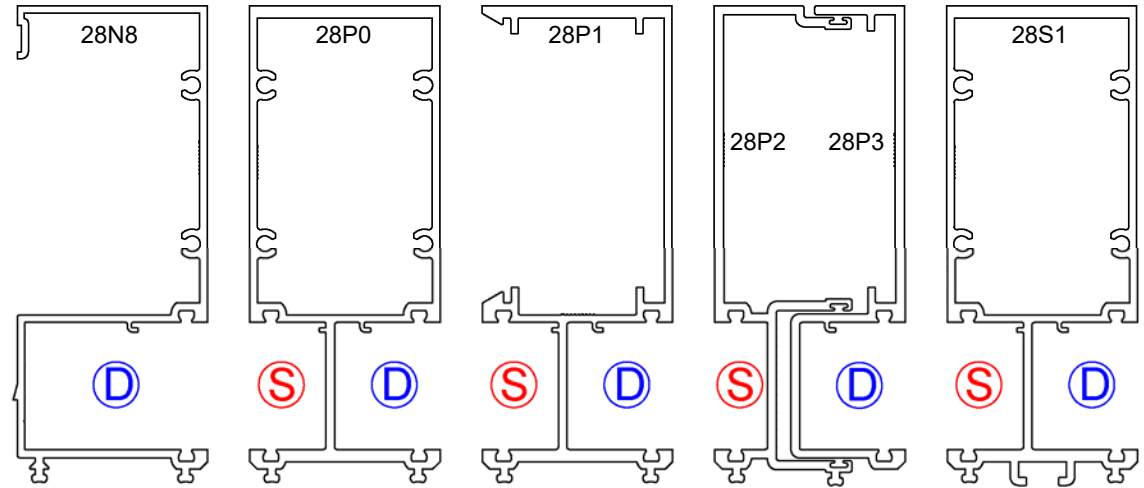

Figure 28
- The details in figure 28 show a circled “D” in the deep pockets and a circled “S” for **shallow** pockets.